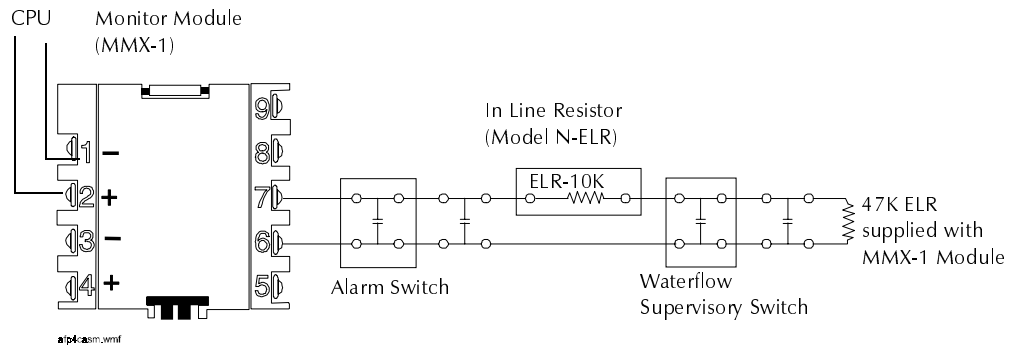

Figure 5-22 NFPA Style B Initiating Device Circuit (Supervised and Power-limited)
3. Connect the end-of-line device as shown Figure 5-22.
Figure 5-22 shows typical connections for wiring a combination waterflow/supervisory valve monitor: